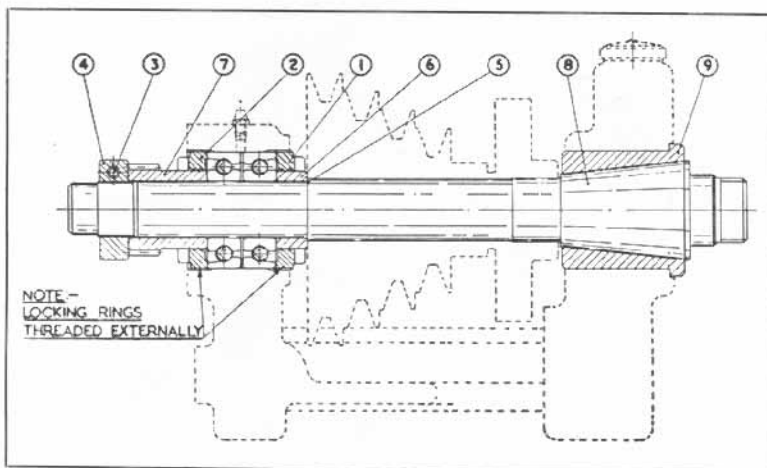

Fig. 34. Showing headstock spindle layout.
As shown in Fig. 34 the headstock bearing layout combines a tapered front journal with twin angular contact ball bearings at the rear. Front journal clearance is adjusted by axial movement of the spindle relative to the tapered bush.
Examination of Fig. 34 will show that the ball bearings are held between the spindle thrust shoulder (5) and the adjusting collar (4), by the distance sleeve (6) and the sleeve gear (7) which act as spacers.
Refer to Fig. 34. Slacken screw (3) just sufficiently to allow adjusting collar (4) to be turned. Excessive freedom in the collar thread may allow the thrust face to move out of square and affect the setting of the ball bearings when the screw (3) is tightened. Rotate collar (4) clockwise (looking on end of spindle) to increase the loading.